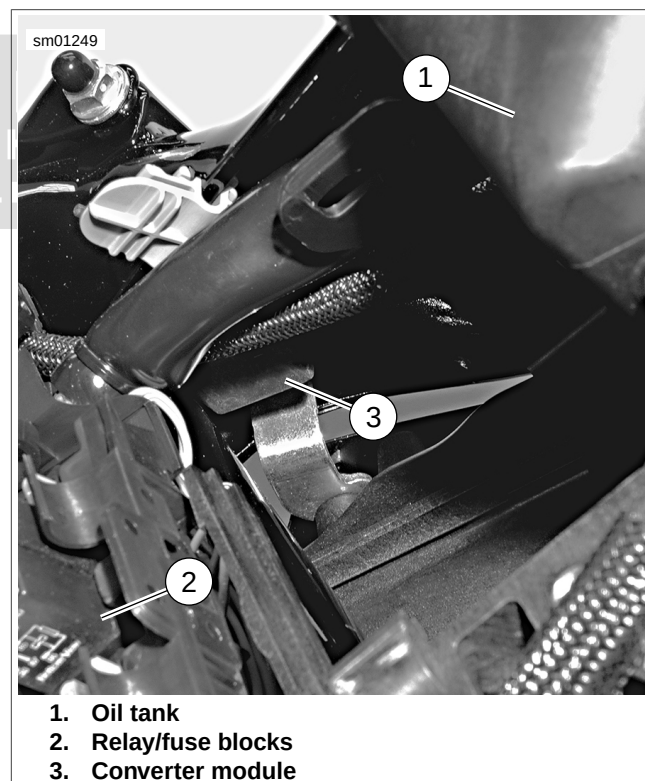

Figure 6-93. Converter Module Location
See Figure 6-93. The converter module (3) is located in front of the battery, under the frame "Y" section.